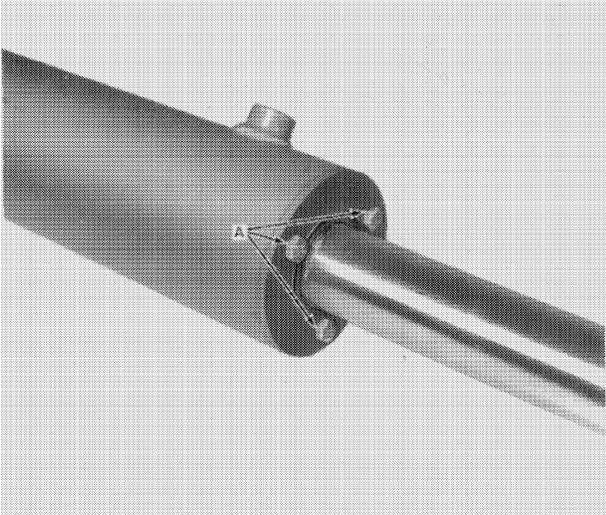

FIGURE 2-10
1. Remove three cap screws, A, Figure 2-10, and remove the end cap. Drain oil from the cylinder.